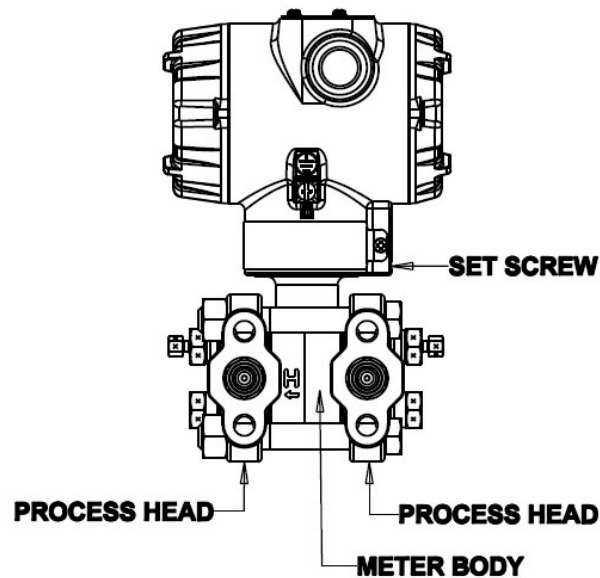

**Figure 20 – Disassembly for Meter Body Replacement**
4. Refer to Figure 20. Loosen the End Cap Lock, and unscrew the End Cap from the electronics side of the Transmitter housing.